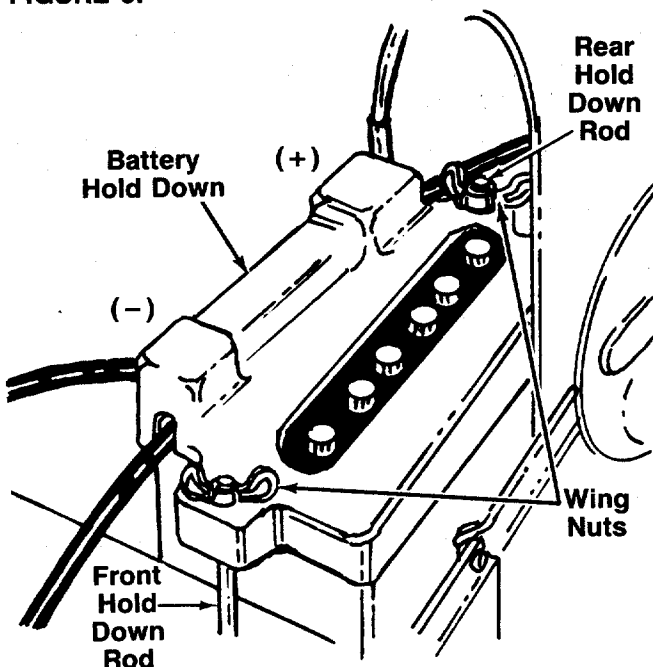

FIGURE 7.
6. Attach other hold-down rod to the other side of battery cover in the same manner. See figure 7.